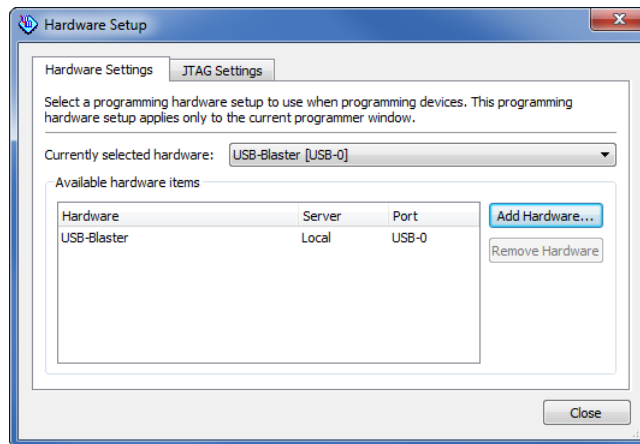

Figure 11. Setting up hardware.
- For SignalTap II to work, we need to properly set up the hardware. First, make sure the DE-series board is plugged in and turned on. In the Hardware section of the SignalTap II window, located in the top right corner, click Setup, bringing up the window in Figure 11. Double click USB-Blaster in the Available Hardware Items menu, then click Close.